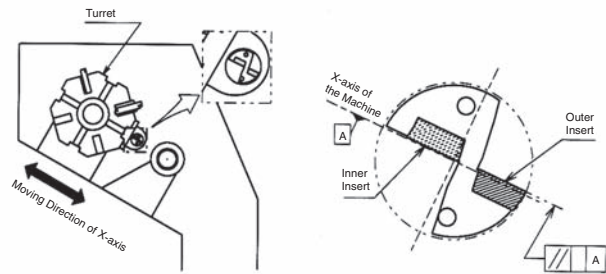

Fig.1 Installation to the Turning Lathe
- ① The top face of the outer insert should be parallel to the X-axis to allow for offset cutting.
- ② It is recommended to set the outer insert as shown in Fig.1 with the outer insert facing the operator. (It is also possible to use it by setting 180° reverse position.)